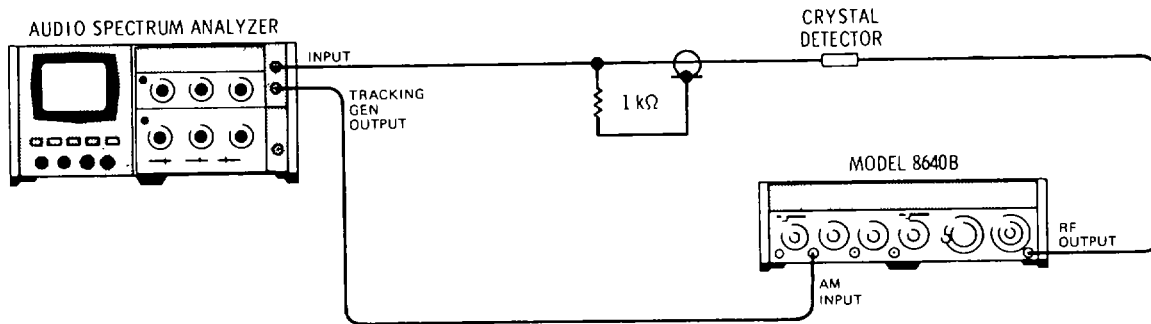

Figure 4-18. AM 3 dB Bandwidth Test Setup.
1. Connect equipment as shown in Figure 4-18 after setting Signal Generator's controls as follows: